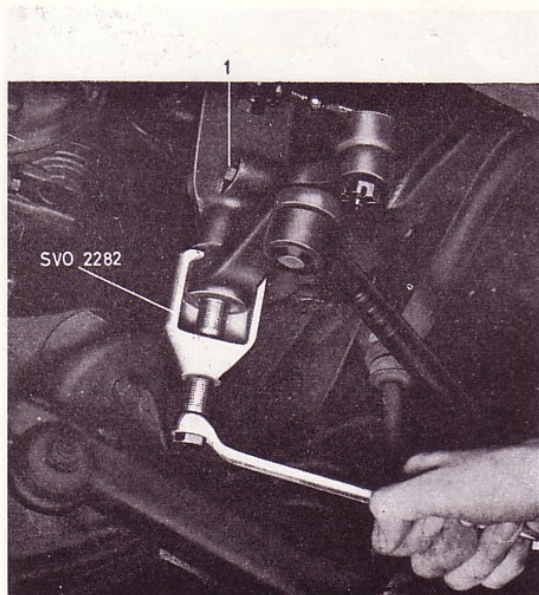

Fig. 13. Removing the pitman arm.
6. Remove the pitman arm with the help of puller SVO 2282. See Fig. 13.